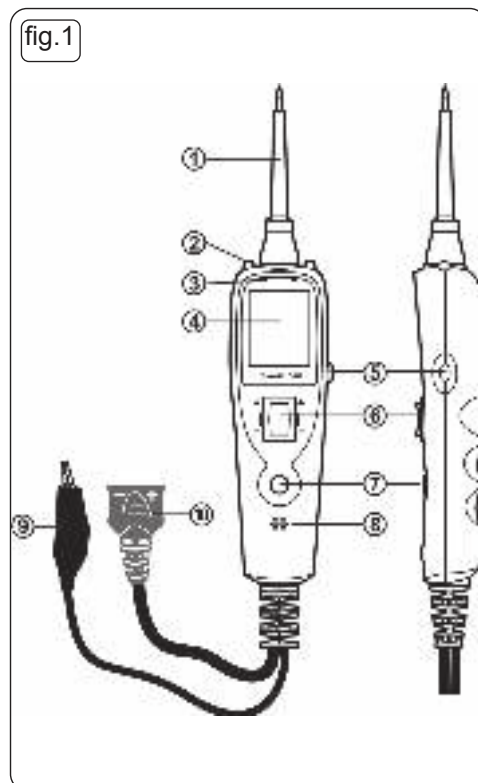

fig.1
### Key to fig.1
**Note:** The tool is equipped with a built in circuit breaker for overload protection. Should the circuit breaker be activated, reset using the circuit breaker reset (fig.1 item 5).